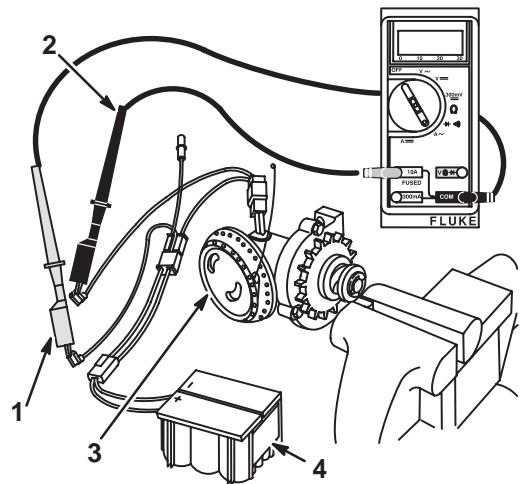

Fig. 94 – Testing Starter Motor with Digital Multimeter
2. Connect starter motor, battery and meter as shown in Fig. 94.
3. Place tachometer on starter body and activate starter motor as shown, Fig. 94.